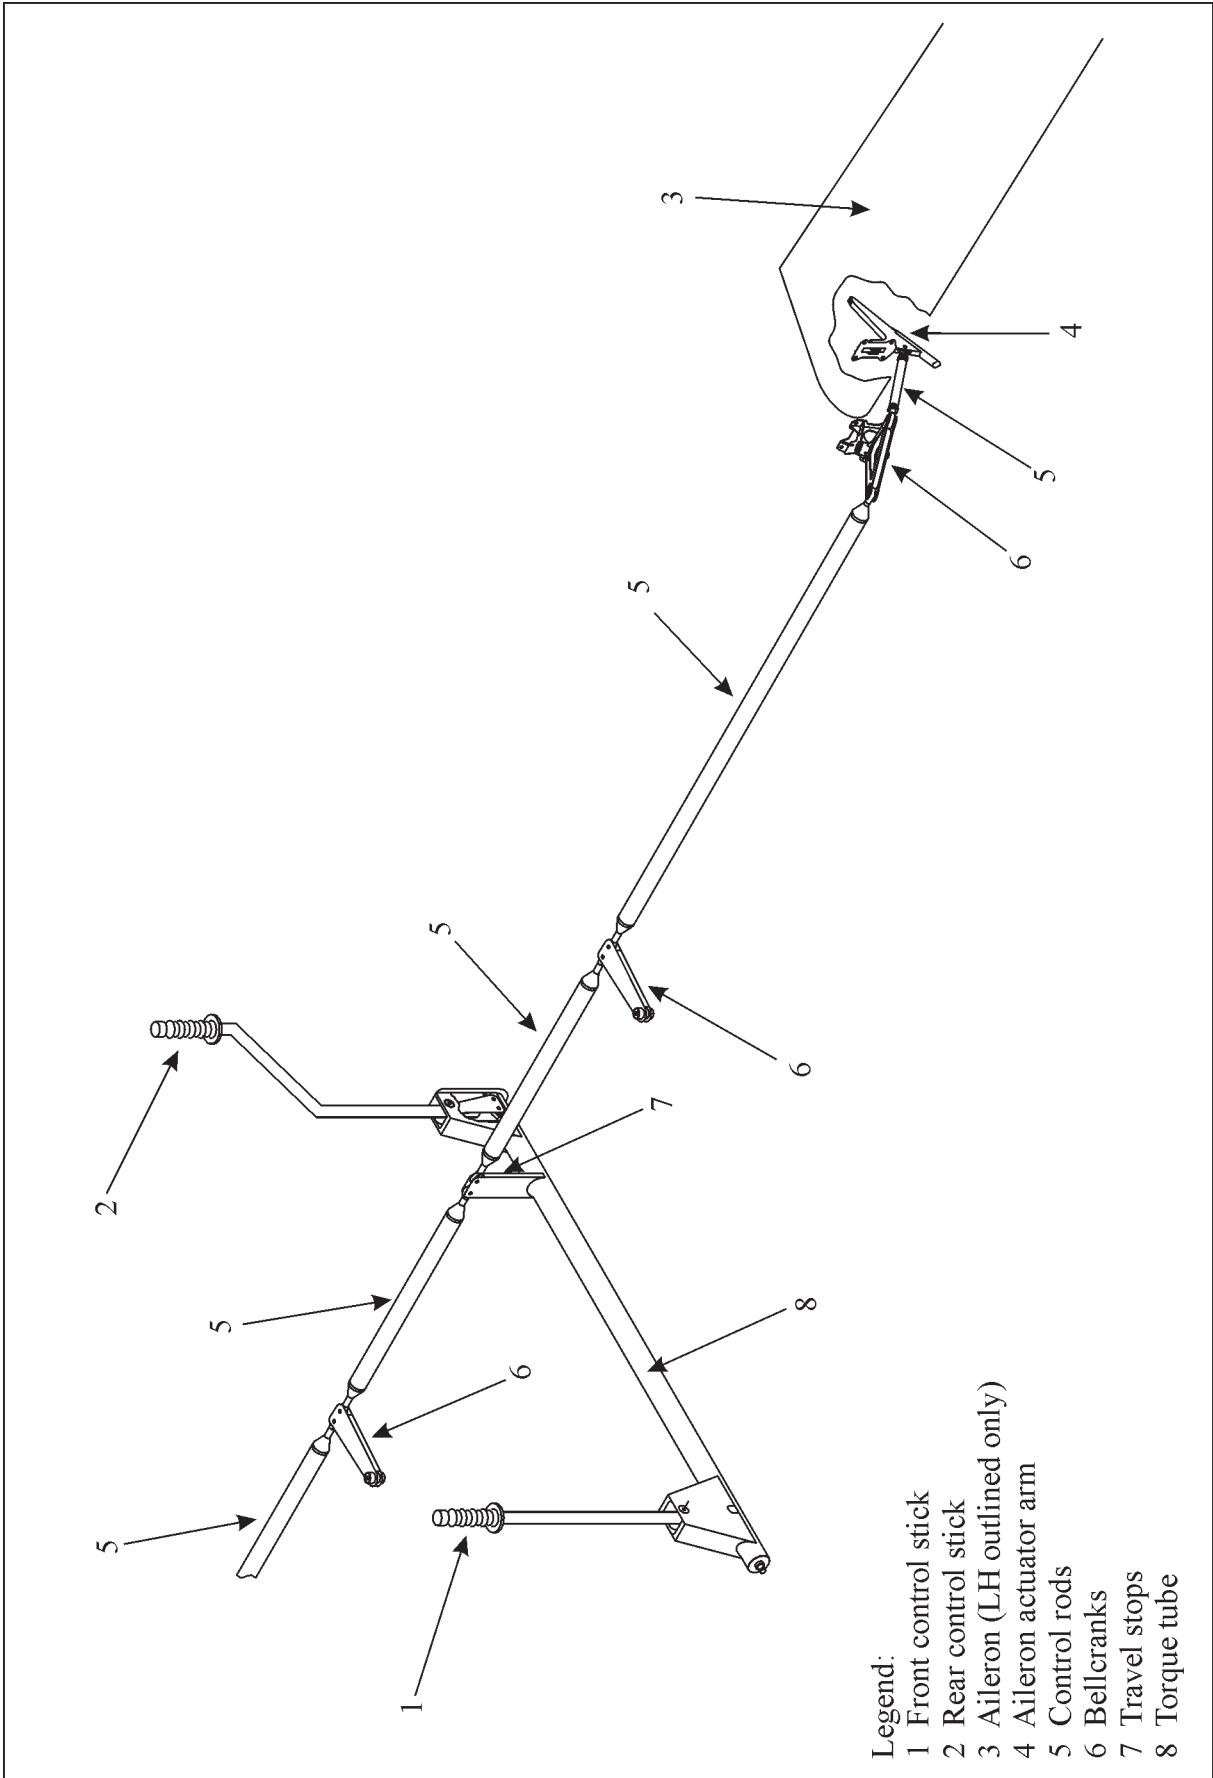

Figure 10
(Refer to Figure 10) The aileron (3) is directly mechanically linked to the control sticks (1, 2) by the aileron actuator arm (4) with spade arm, push-pull rods (5), bellcranks (6) and the torque tube (8). The bell cranks have two sealed ball bearings. Each aileron is mounted at three points in spherical bearings pressed into aluminium hinge arms. For lightning protection reasons each hinge arm is electrically bonded to the corresponding attachment bracket at the aileron by bonding braids. The rod end bearings of the push-pull rods located in the wing are also interconnected by bonding braids. The travel stops (7) are located at the torque tube next to the rear control stick (8).